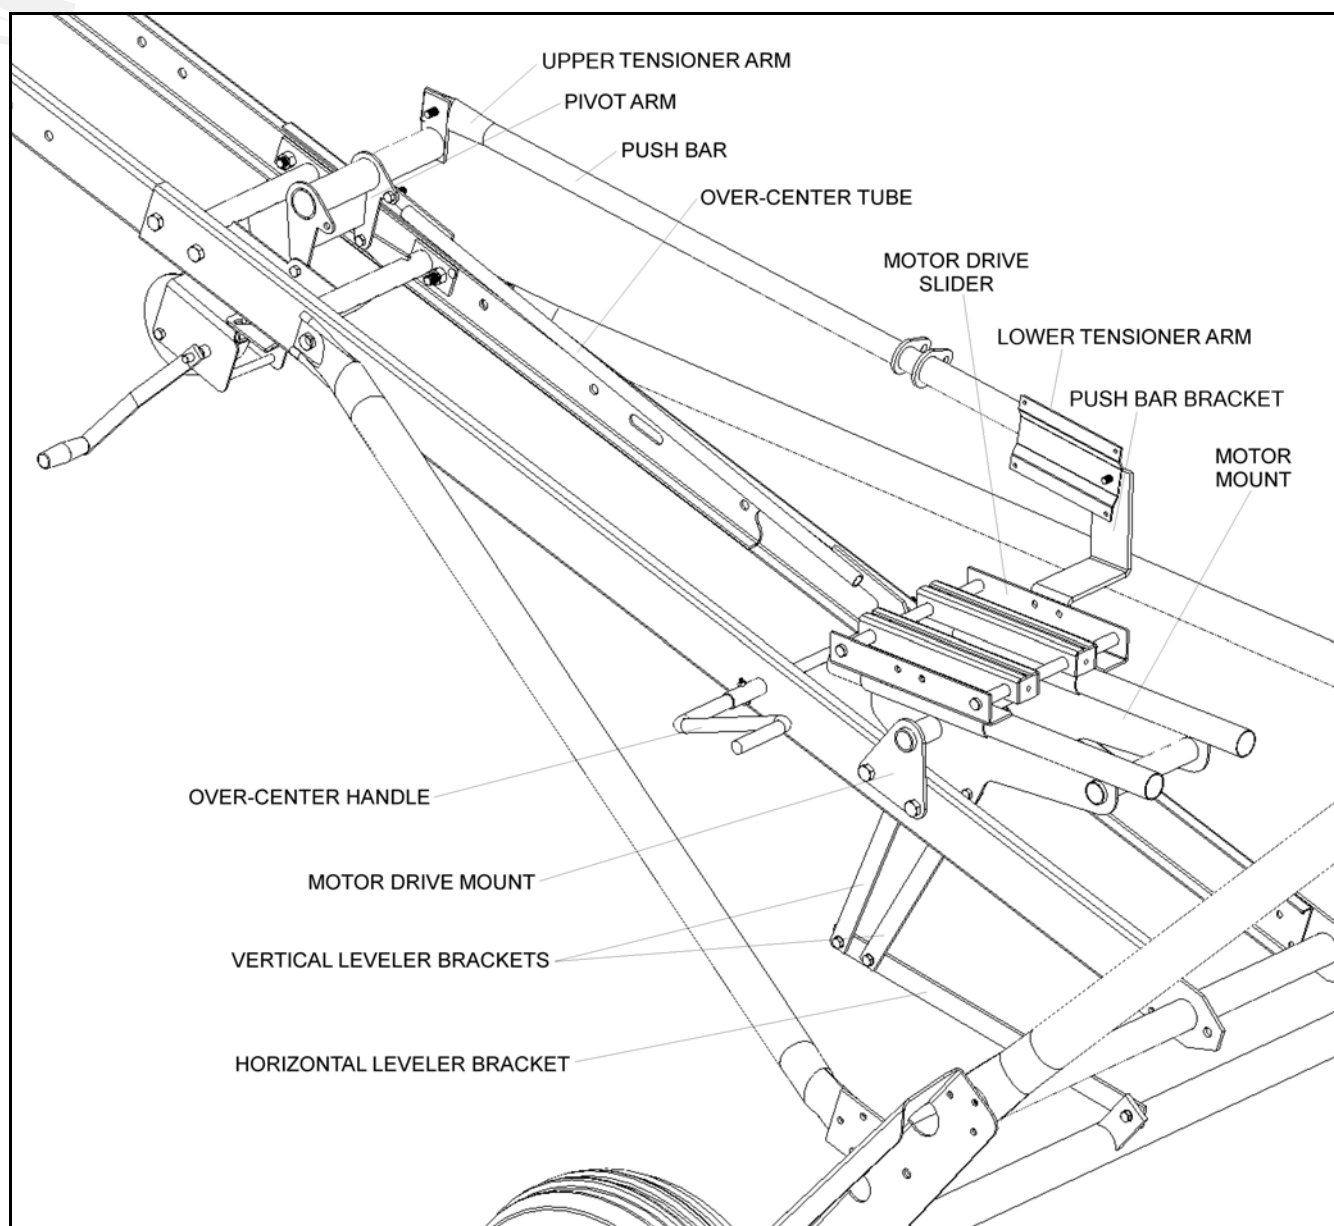

Figure 3.33
9. Bolt tensioner arm bracket to motor drive slider using two 7/16" x 1-1/4" bolts as shown in Figure 3.33. Tighten these bolts completely.
10. Slide lower tensioner arm onto upper tensioner arm and bolt it to push bar bracket with a 7/16" x 1" bolt and locknut. Secure tensioner arm to pivot arm with a 1/2" x 1-1/2" bolt and locknut (see Figure 3.33).